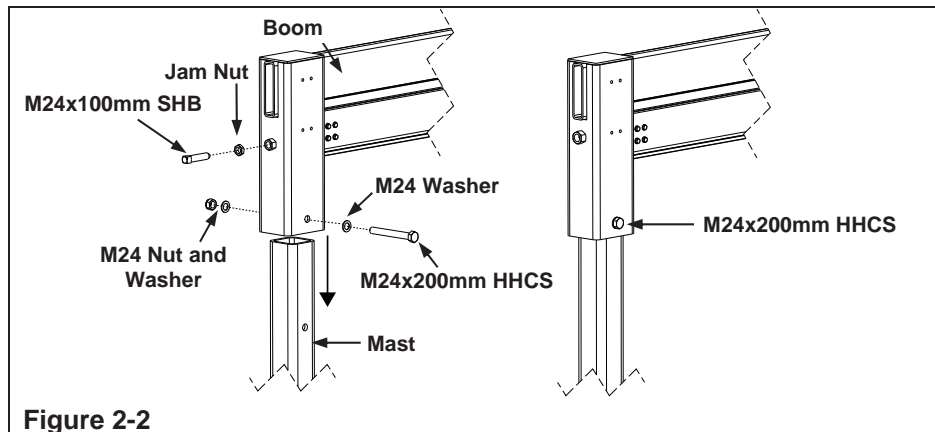

Figure 2-2
- Step 1. Remove M24x200mm HHCS bolt, washers and nut from boom. See Figure 2-2
- Step 2. Remove M24x100mm Square Head Bolt (SHB) and jam nut from boom. See Figure 2-2
- Step 3. Lower boom carefully onto mast and align holes. See Figure 2-2
- Step 4. Secure boom to mast with M24x200mm HHCS bolt, washers and nut. **Tighten until bolt(s) are snug + ¼ turn.** Do not over tighten. See Figure 2-2.